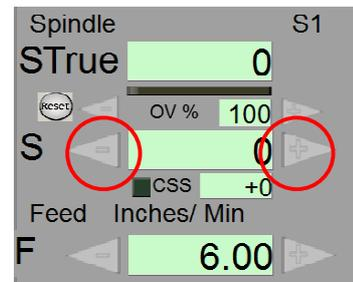
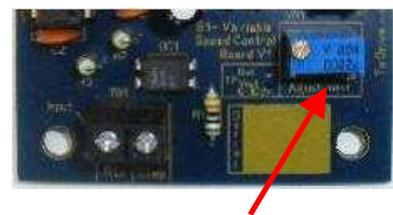

Fig. 7. Radio button.
Fig. 8. Fine-Tune potentiometer.
- Step 9. Start the spindle by using the MDI line e.g. type S320 and press enter then type M3 and press enter. Slowly ramp up the speed using the radio button (Fig.7.). Adjust the maximum speed with the VFD's on board potentiometer. If you can't slow it down enough on the VFD, then limit the VSC using the fine-tune potentiometer (Fig.8.).